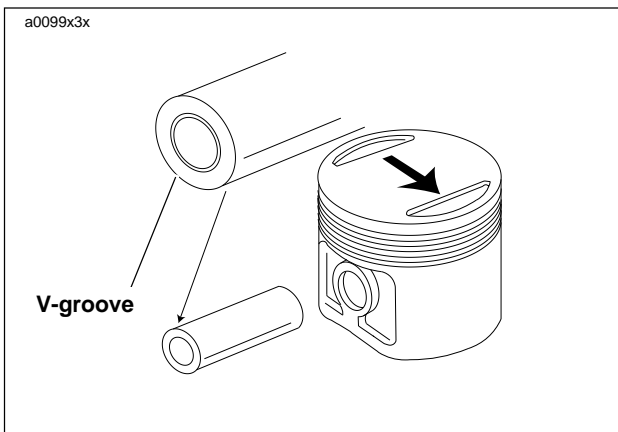

Figure 3-68. Piston Pin and Piston Identification
- See Figure 3-68. The arrow at the top of pistons must always point toward the front of the engine.
- See Figure 3-68. Spread piston rings outward until they clear grooves in piston and lift off.